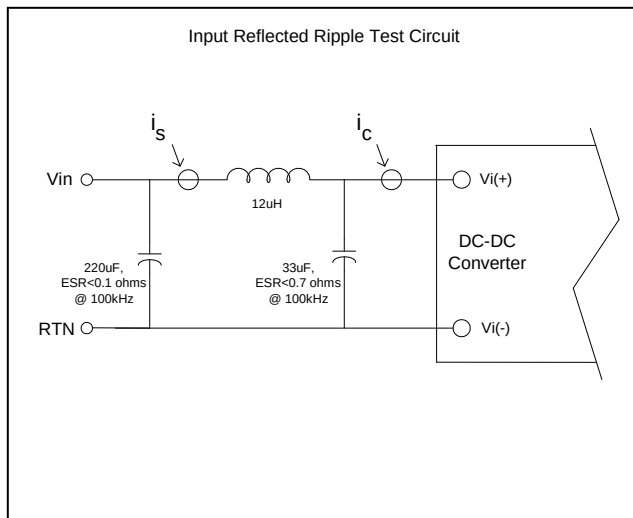

Figure 7 Test circuit used for input ripple current measurement
- (1) $V_{in} = 48V_{dc}$, $T_a = 25^{\circ}C$, Airflow = 200 LFM unless otherwise noted.
- (2) Input Reflected Ripple Current is specified when measured with the filter shown in Figure 7.
- (3) Output Ripple Voltage and noise is specified when measured with a 10uF tantalum and a 1uF ceramic capacitor at the converter output pins.
- (4) Transient response is specified without a capacitor at the output of the converter.
- (5) If remote sense is not required or used, the Sense(+) and Sense(-) pins must be connected to $V_o(+)$ and $V_o(-)$ respectively.
- (6) See 'Remote Sense' and 'Trim Feature' details regarding output voltage range limitations.
- (7) Thermal shutdown is monitored at the 'Thermal Measurement Location' (TML). See 'Mechanical Information' on page 4 for the thermal measurement location.
- (8) See 'Safety Considerations'.
- (9) De-rating curves are conducted in a controlled environment. End application testing is required to ensure the Thermal Measurement Location temperature is below the maximum specified.